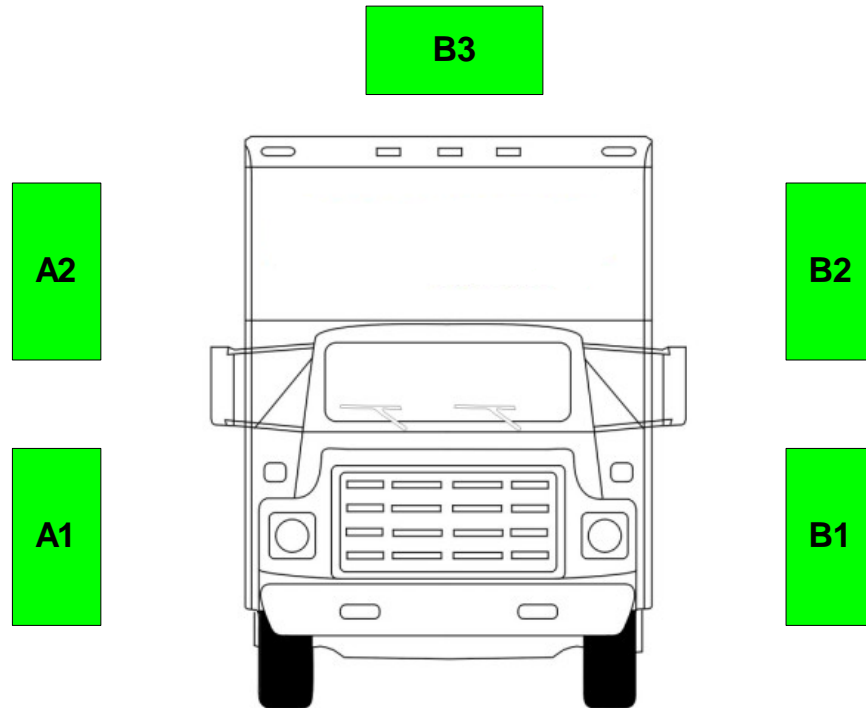

Figure 2-1 Detector Orientation
- Figure 2-1 shows the correct designations – **NOTE that the figure shows a vehicle ENTERING the detector portal on the way INTO the plant.** A (5 detector) system is shown to cover most possibilities, note that a 2 detector system would only be detectors A1 and B1.